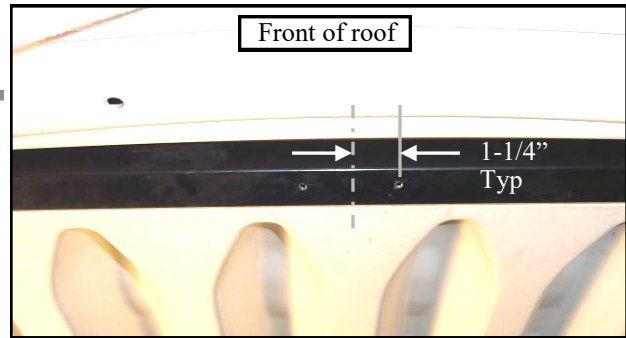

Figure 3.1 (view from front of vehicle)
3.1 Per fig. 3.1, mark the center of the vehicle from side to side on the bottom surface of the front roof support tube. Then mark hole locations 1-1/4" to either side of center mark, centered on the tube front to back.